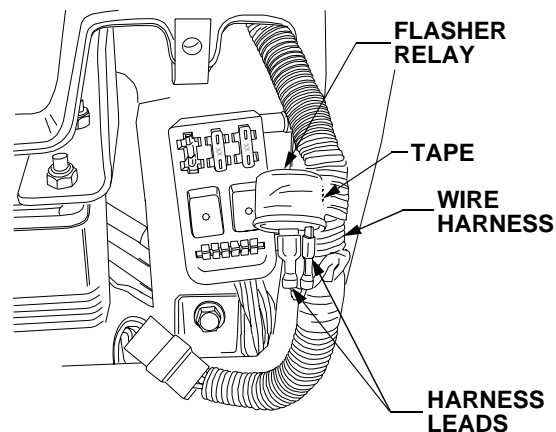

Figure 45
- Pull the wire harness from the dash opening. Cut and remove the electrical tape holding the flasher relay to the harness. See Figure 45